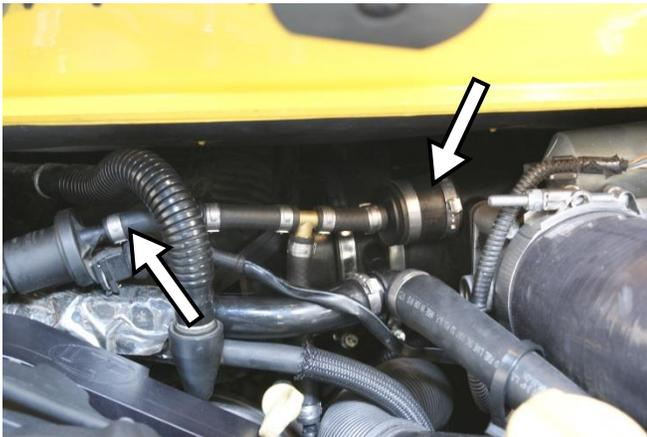

Figure 37
- Connect the VF crankcase vent adapter (16) to the throttle body plenum (right arrow) (figure 37).
- Connect the short hose from the VF check valve to the EVAP solenoid (left arrow) (figure 37).